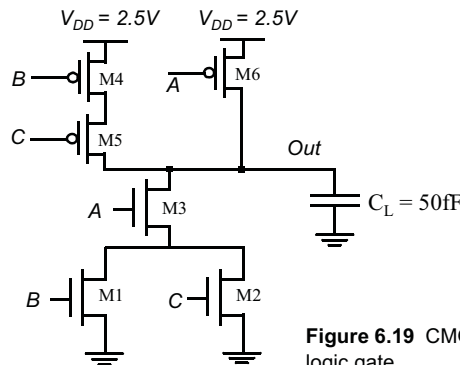

Figure 6.19 CMOS logic gate.
- 29. Consider the circuit shown Figure 6.19.